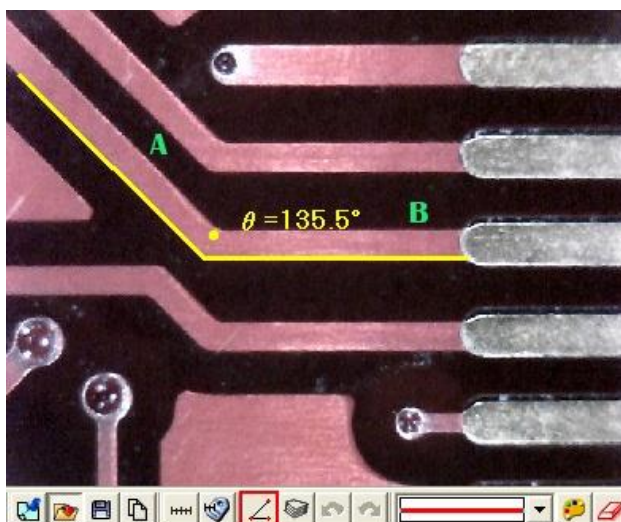

Fig 5-74 3 Points Angle
(11) 3 Points Angle: Measure the angle on the object and use . In Fig. 5-74, it can see an angle on the object, draw a line and stop at the corner of angle, and then draw the other line from the angle; the angle can be automatically calculated. a dot shows the measured angle, it is 135.5°.